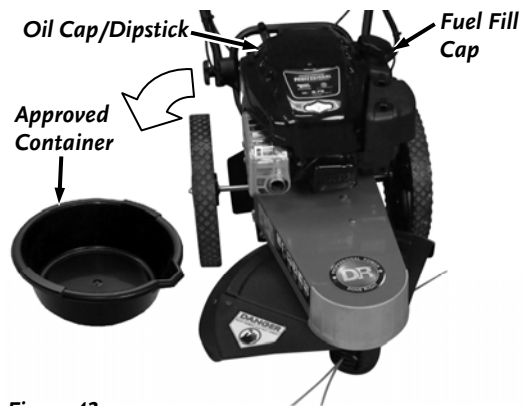

Figure 43
4. Using the handle of the DR TRIMMER/MOWER, tip the machine to drain the oil out through the Oil Filler Tube into a suitable receptacle (**Figure 43**).